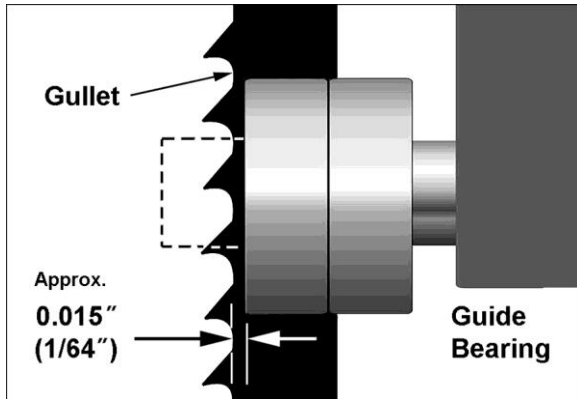

Figure 5-11: guide bearing position
5. Slide entire guide bracket until front of guide bearings are about 0.015” (1/64”) behind blade gullet (curved area at base of tooth). See Figure 5-11.